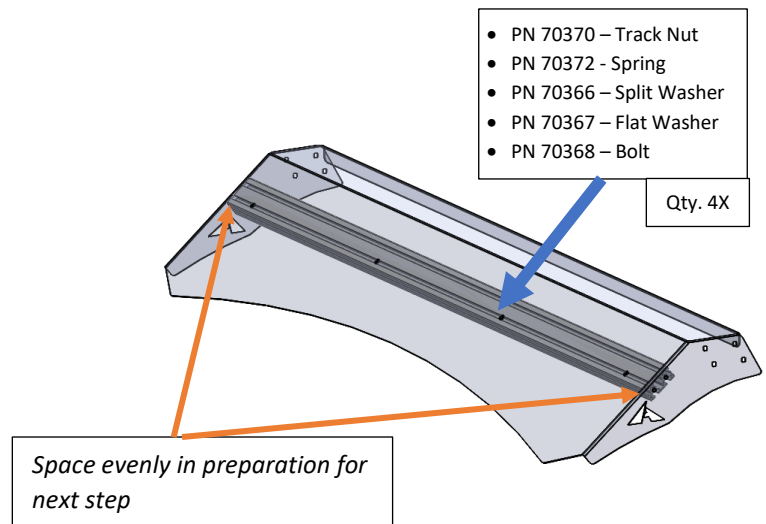

Figure 9: Crossbar Install onto Air Dam
6. Slide track nuts into position to match the air dam. Use the air dam as a template for spacing, and bolt the air dam to the crossbar. Reference Figure 9.